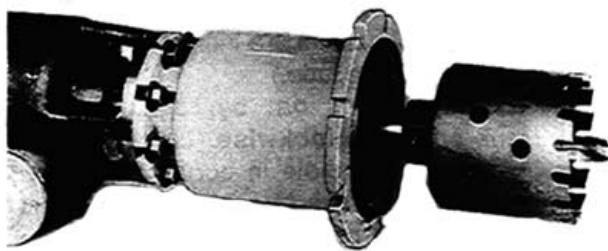

FIGURE 12
- a. When using CC-36 or C1-36 drilling machines, assemble the shell cutter and cutter hub. Insert the shank of pilot drill into the socket in the boring bar. Slide cutter hub and shell cutter over the end of the boring bar. Align holes in the cutter hub, boring bar, and pilot drill and attach to boring bar with hub retaining bolt. **Fig. 12.**